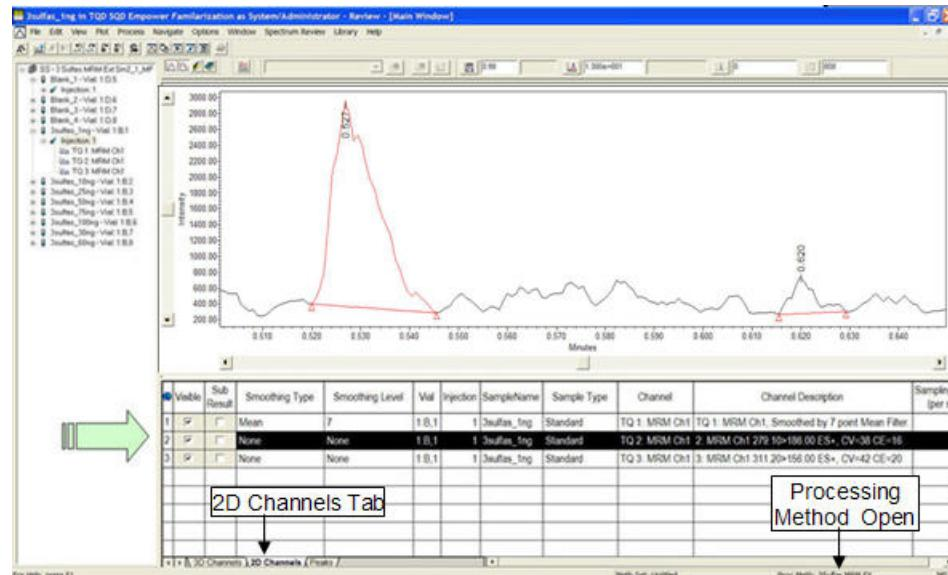

Figure 82 - 2D Channels Table tab
2. Select the channel as shown in Figure 82.